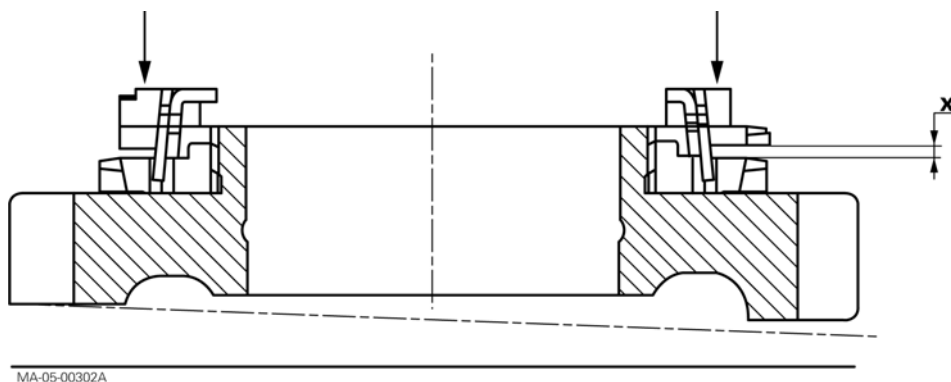

Fig. 12
4. Stack the coupling flange (3), cones (2) and (8) and ring (7).
5. Correctly position the ring (7) on the cones (2) and (8), revolving them alternately each several turns and applying pressure manually.
6. Using a set of thickness shims, measure dimension X (Fig. 12) at three equidistant points.